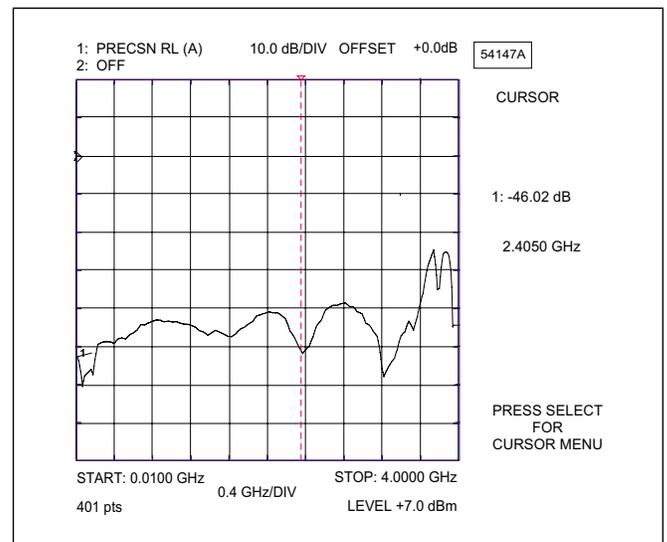

Figure 6. Direct Readout of the Precision Return Loss
22. Observe that the waveform displayed resembles that shown in Figure 6.
This procedure provides instructions for replacing the battery pack. Refer to Figure 6 (page 8) during the procedure.